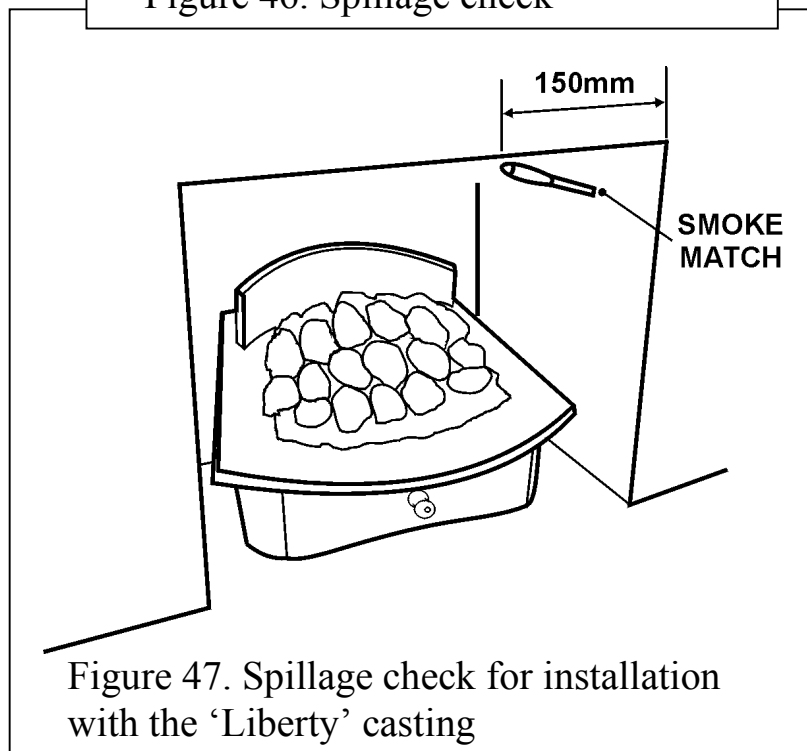

Figure 47. Spillage check for installation with the 'Liberty' casting
- *A spillage check must be made before leaving the installed appliance with the customer. Make this with all the ceramic fuel effect pieces and firefronts / castings in position. (See figure 47)*